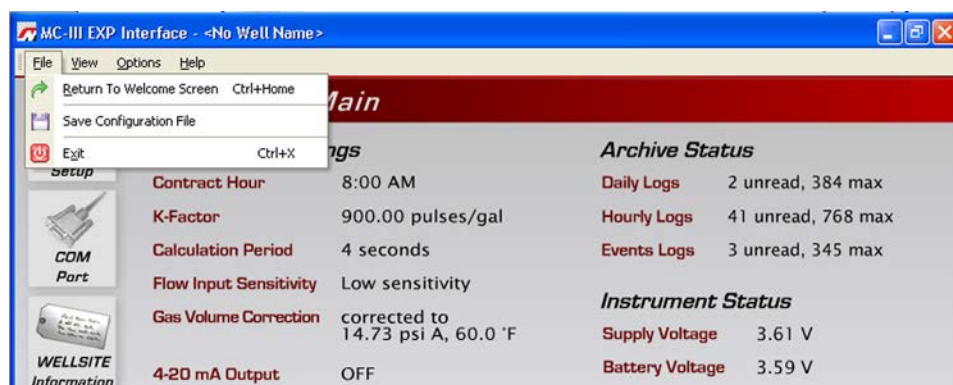
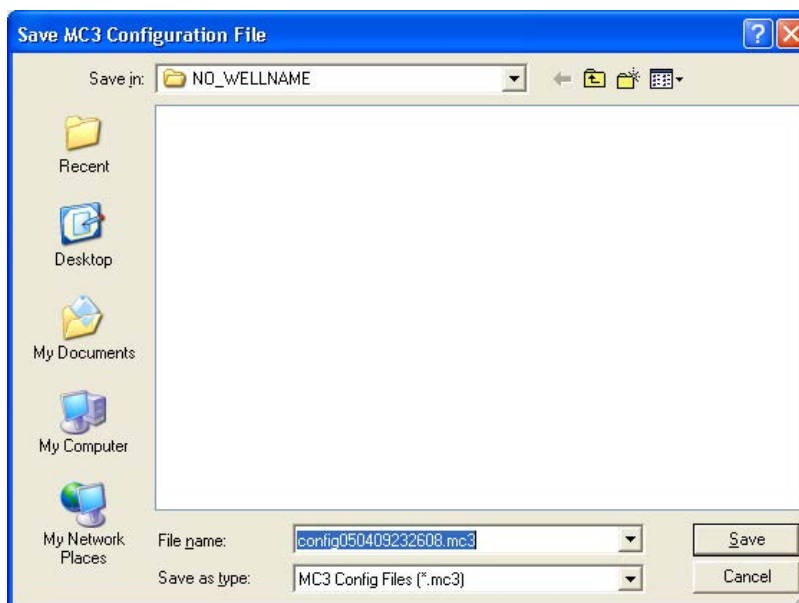

Figure 4.35—File dropdown menu allows user to save a configuration file
Figure 4.36—Default directory for configuration files
1. Select File>Save Configuration File (Figure 4.35). A "Save MC3 Configuration File" screen (Figure 4.36) will appear, prompting the user to save the file to the computer hard drive. The default directory is C:\NuFlo log data\MC-III\<WELL NAME>, however the user can specify a new location, if desired.
The “wellname” folder will bear the well name that appears on the Wellsite Information screen. If no well name is entered on this screen, the folder will be named “NO_WELLNAME” (*Figure 4.36, page 71*).